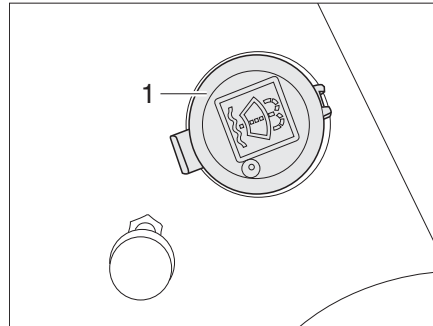

Fig. 31 Washer fluid container filler neck
- Remove the lid (Fig. 31,1) from the filler neck of the washer fluid container.